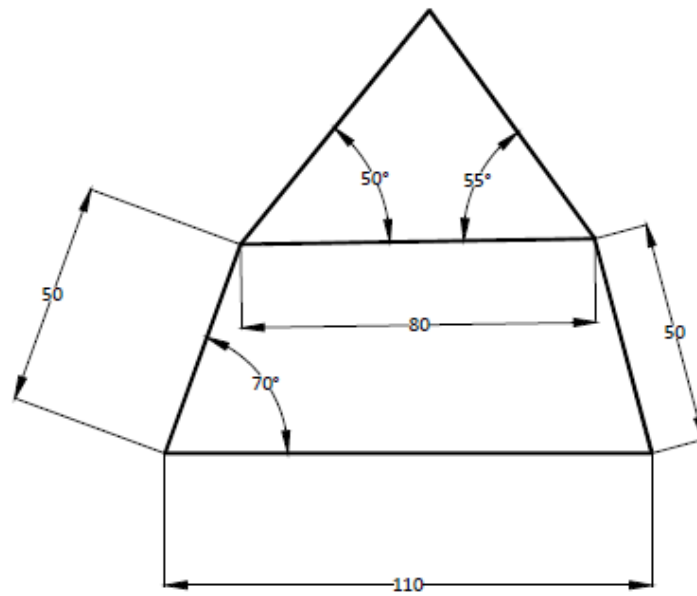

Fig.Q.3B
- 1A. Synthesize a four bar mechanism to generate a function  $y = \sin(x)$  for  $0^\circ \leq x \leq 90^\circ$  for the input range of  $\Delta\phi = 120^\circ$  (choose starting angle as  $97^\circ$ ) and the output range of  $\Delta\psi = 60^\circ$  (choose starting angle as  $60^\circ$ ) for three precision points. Use the Freudenstein's equation to determine the values of all the links. Take  $r_1=100$  mm. (07)
- 1B. A crank and rocker is to have a rocker 6 ft in length and rocking angle of  $75^\circ$ . If the time ratio is to be 1.32, what are suitable set of link lengths for remaining three links? (03)
- 2A. Explain three position synthesis of four bar mechanism using relative pole method. (04)
- 2B. Define spatial mechanism. Explain mobility equation for spatial mechanism with PSGC as an example. (03)
- 2C. Design a slider crank mechanism such that  $\phi_{12}=30^\circ$ ,  $\phi_{23}=50^\circ$  and  $S_{12}=25$  cm,  $S_{23}=20$  cm. The link moves in the clockwise sense while the output slider moves away from fixed point  $O_2$ . (03)
- 3A. Derive Bloch's method for synthesizing four bar mechanism. (05)
- 3B. Design the three cognates for the given mechanism shown in **Fig.Q.3B**. (05)